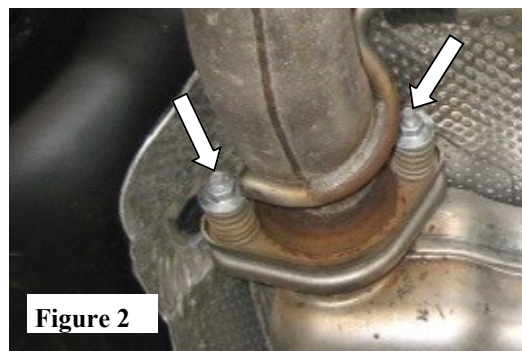

Figure 2
2. Unbolt the flange located on the driver side of vehicle behind the front muffler assembly. (See Fig. 2)